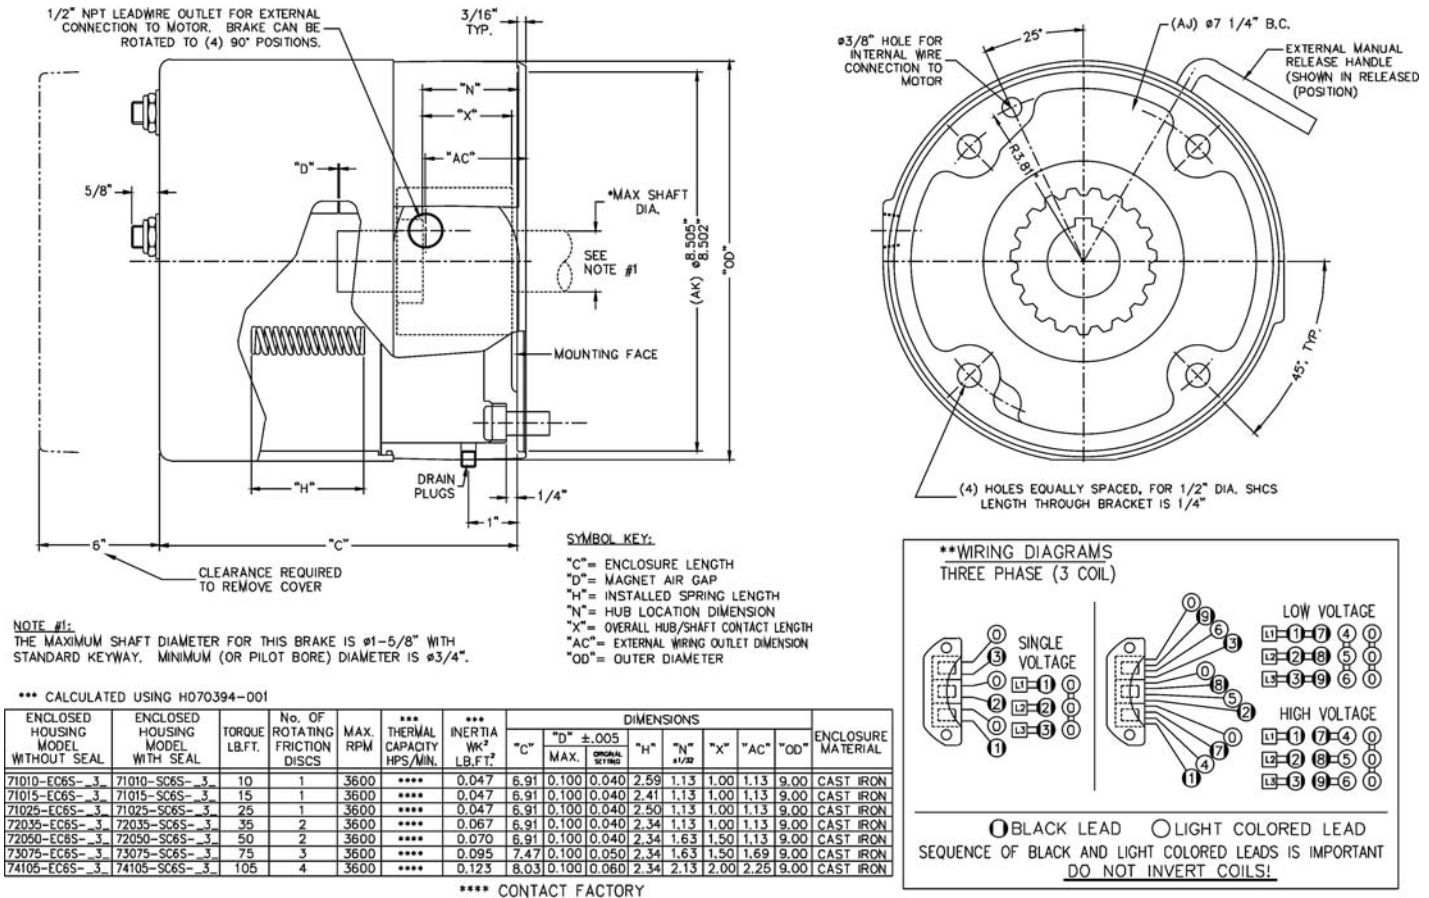

Figure 1 - Brake Outline
(See Figures 1, & 2, Table 1)
1. Remove hub (99) from brake and position on motor shaft with key according to dimension "N" per figure 1. Stamped part number on hub should face away from motor. Tighten hub set screws with 18 lb.ft. torque.
2. Remove temporary cover nut and cover (67). Set cover aside. Discard temporary nut.
3. If brake is supplied with a mounting face gasket (91), place gasket onto the brake mounting face.
5. Bolt brake to motor "C" face with four socket head cap screws. See Figure 1 to help in determining proper bolt length. Final bolt thread pitch, length and mounting torque is dependent on the material and depth of the threaded holes in the mounting face.
6. Connect coil leads per appropriate wiring diagram in Figure 1 and replace cover (67).
7. Use provided sealing washers (70) and nylon locking nuts (71) to secure cover (67).
Before air gap "D" reaches .100", adjustment is required. Any delay in adjusting the magnet air gap will result in eventual loss of torque. Refer to Fig. 1, 2 & 3.
The magnetic disc brake is factory set for rated static torque. The brake can be adjusted to reduce torque which increases stopping time. Do not attempt to adjust brake for higher torque, as this will cause premature coil burnout. (Refer to Fig. 1 & 2)
5. **Re-assembly of electromagnet assembly (15) Refer to Fig. 1 & 2.** Reinstall pressure plate (32) by rotating clockwise to engage both torque spring bolts (28) into slots in brake bracket (1). Replace all nuts, washers, and springs (42, 43, & 44). Nut (44) on the pivot post (17) should be adjusted, so the distance from the bottom of the pressure plate (32) to the top of the brake bracket (1) is 7/16". Reinstall magnet assembly (50A) and install nuts and washers (59, 60, & 61). Nut (61) should be torqued to 20 lb-ft.
7. Reset spring height according to brake model number in Fig.1 from the top of the spring (42) to the bottom of the pressure plate (32).
2. Remove cover locknuts/seals (70 & 71) and cover (67).
4. Replace with new magnet assembly (50A) and install nuts and washers (59, 60, & 61). Nut (61) should be torqued to 20 lb-ft.
5. Place coil lead wires around mounting bracket (1) to the same side as the wire outlet position or internal wire outlet. Connect coil lead wires per Fig. 1.
9. Replace cover (67) and cover locknuts/seals (70 & 71). Tighten nut (71) to 30 lb-in. Reconnect power.